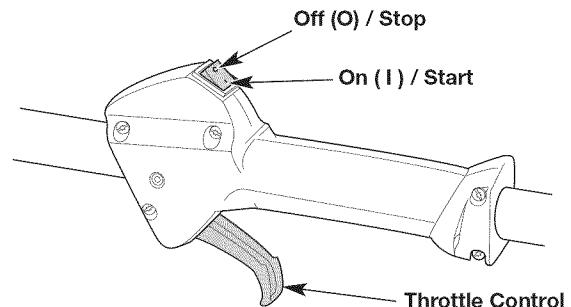

Fig. 8
NOTE: There is no need to turn the unit on. The On/Off switch is in the ON (I) position at all times (Fig. 8).
5. Squeeze and hold the throttle control (Fig. 8).
2. Press and hold the On/Off switch in the OFF (O) position until the engine comes to a complete stop (Fig. 8).
- NOTE:** There is no need to turn the unit on. The On/Off switch is in the ON (I) position at all times (Fig. 8).
6. Squeeze and hold the throttle control (Fig. 8).